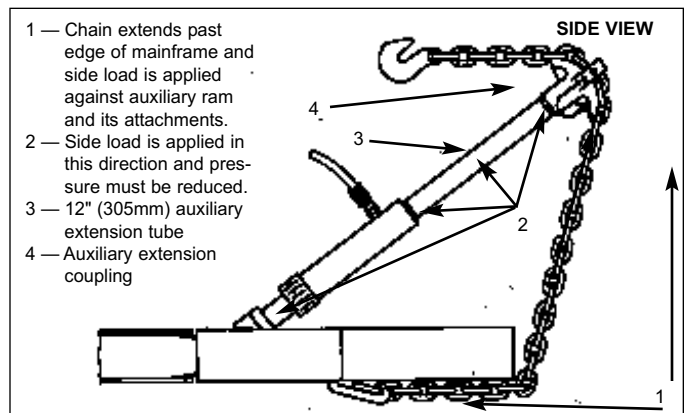

Figure 9
2. If using auxiliary ram as shown in Figure 9, use low pressure and watch closely so it does not bow due to side load. As more extension tubing is added, side load becomes more severe.